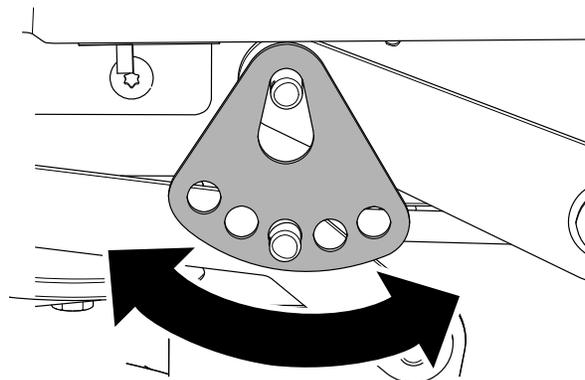

Figure 63
- Rotate the height-of-cut plate to a different hole so that it supports the weight of the mower deck after you install the plate (Figure 63).
- Install the washer and hairpin cotter (Figure 63).